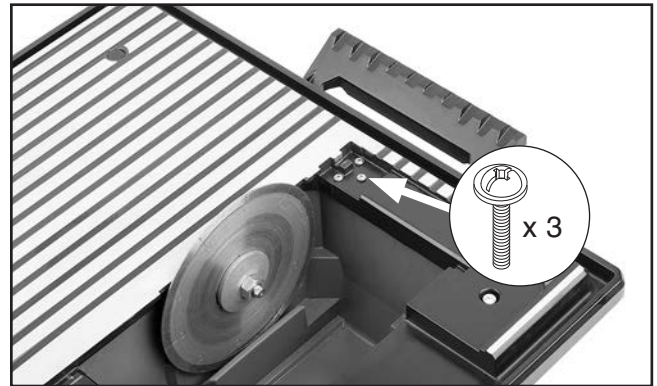

Figure 7. Splash hood flange screws location.
4. Remove (3) pre-installed flange screws shown in **Figure 7**.